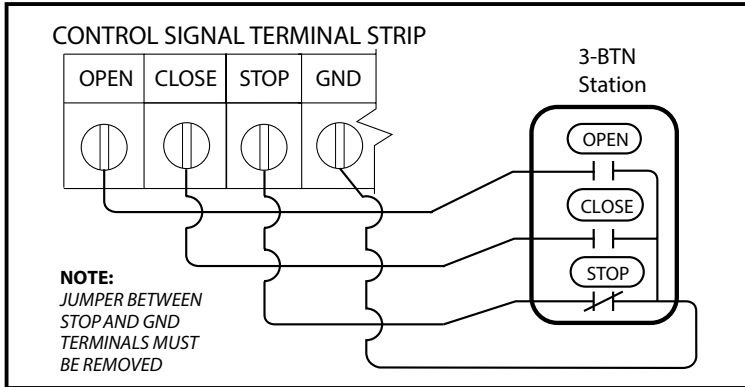

FIG. 1
1. For a single open/close/stop installation, make connections as shown in FIG. 1.